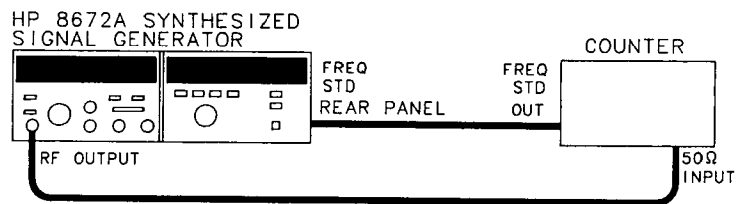

Figure 4-1. Frequency Range and Resolution Test Setup
1. Connect the equipment as shown in Figure 4-1. Set the Signal Generator rear panel INT/EXT switch to EXT. Remove FREQ STANDARD jumper and connect A3J10 to the 10 MHz frequency standard output of the frequency counter.